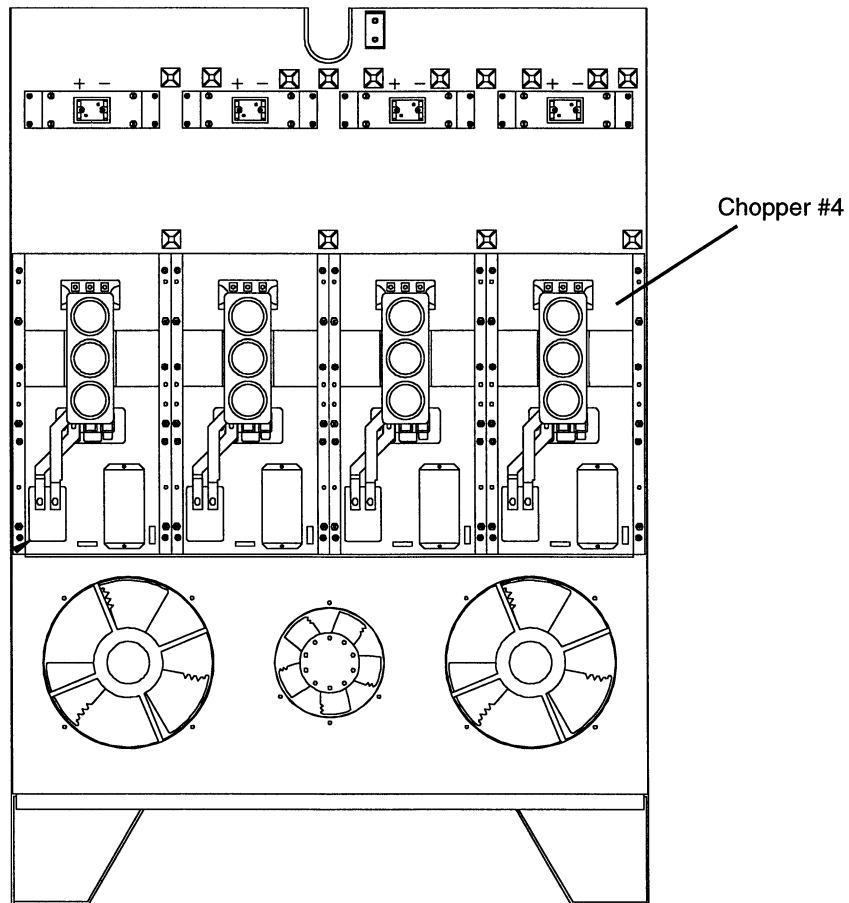

Figure 2 Inside Front Panel of the HT4001 Power Supply
3. Find the inside front panel of the power supply. Fig. 2.
1. Remove the 4 screws that secure the capacitor bracket on chopper #4. See Fig. 2 for location of chopper #4.